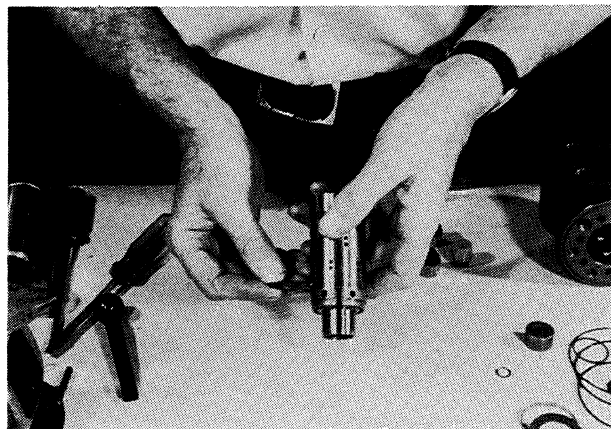

Figure 19
4. At this point, the cross pin (drive pin) must be pushed through the control valve spool and sleeve until it is flush with the sleeve, Figure 19.